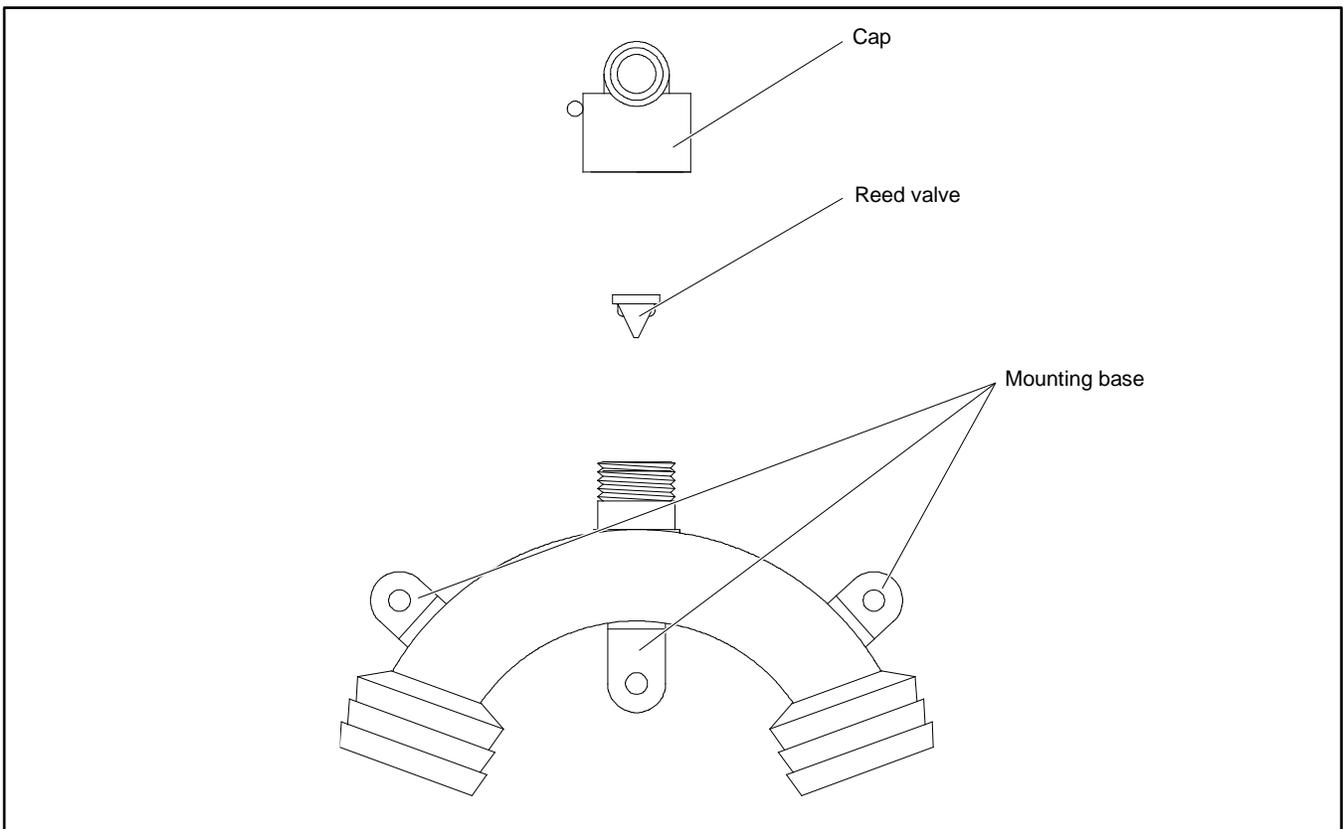

Figure 42 Siphon Break
2. Remove the retaining cap and remove the reed valve for inspection. See Figure 42.
6. Install the reed valve into the mounting base with the valve downward. See Figure 42.